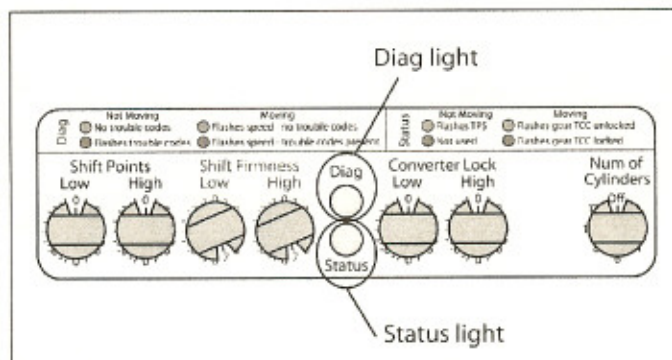

Figure 11 - Diag and Status Lights
3. **Verify Throttle** - Refer to Figure 11 for the location of the Diagnostic (Diag) light and the Status light. To verify the throttle is calibrated watch the Status light (bottom light). The light should be very dim or off while the pedal is released. The light should flash faster with increasing throttle. The light should be solid green when the pedal is fully depressed. The Status light will be solid red while the vehicle is not moving if there is a TPS trouble code set.